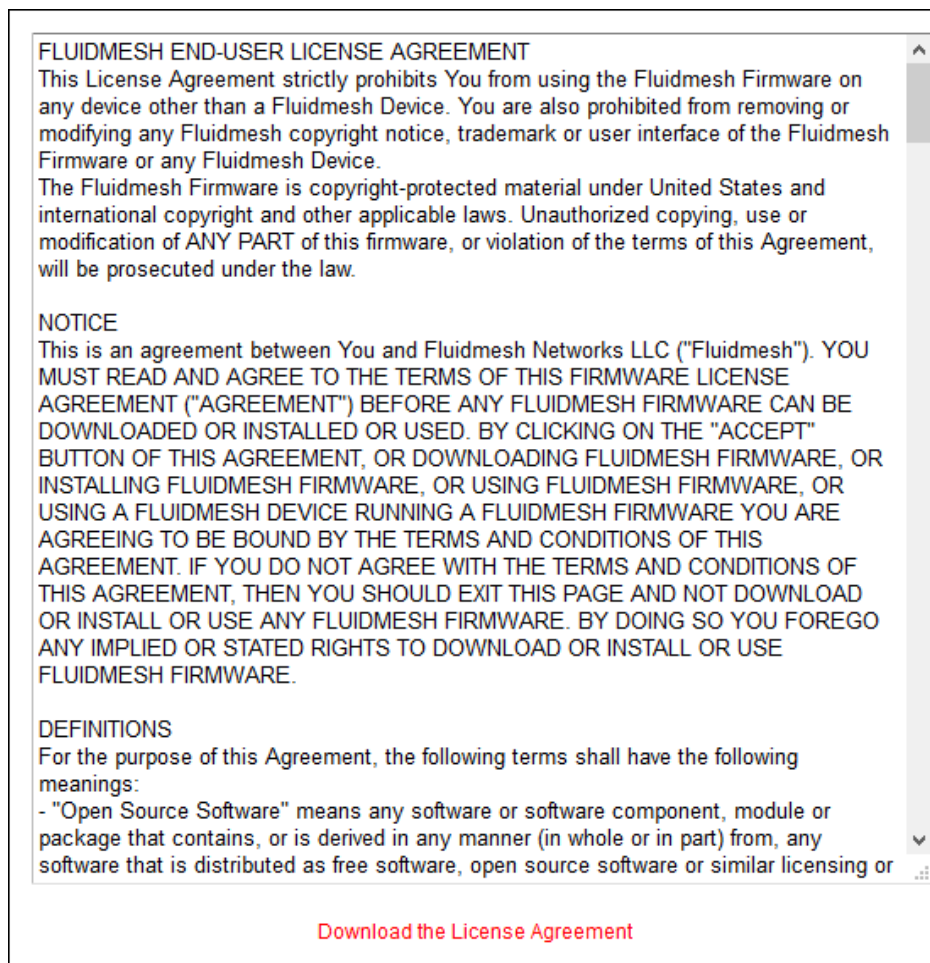

Figure 63. Configurator GUI (End-user license agreement)
- The license agreement dialog will be shown (Figure 63 \(page 143\)).